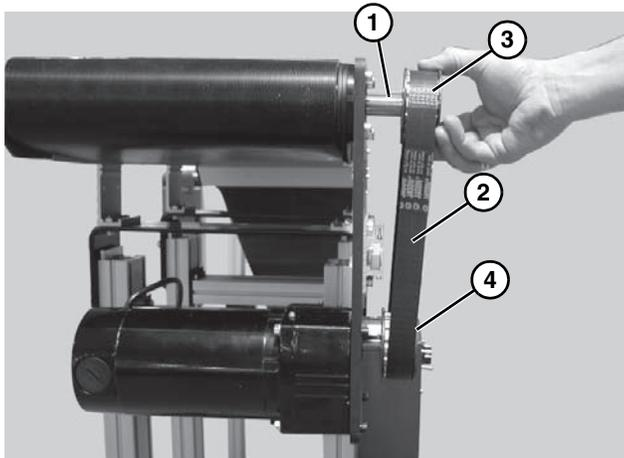

Figure 5
4. Install key (Figure 5, item 1).
5. Wrap timing belt (Figure 5, item 2) around driven pulley (Figure 5, item 3) and drive pulley (Figure 5, item 4). Install driven pulley onto conveyor shaft.
*If drive pulley (**Figure 5, item 4**) is replaced, wrap timing belt around drive pulley and complete step 3.*